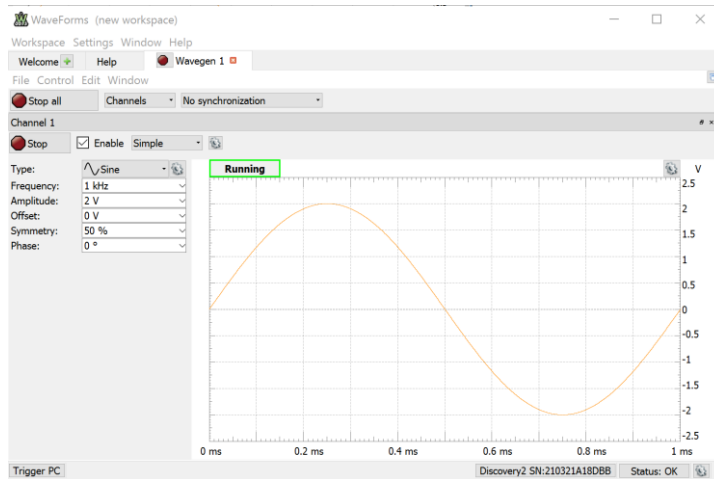

Fig 6. WaveGen display from WaveForms application
- In WaveForms, select the Wavegen instrument. Set the WaveGen output amplitude (V_s) to 2 V (this will give you 4 V peak-to-peak). Set the Channel 1 WaveGen Frequency to 1 kHz. Press the **Run** button for Channel 1 to start the output. The green Running label should display above the sinewave, as seen below in Figure 6.